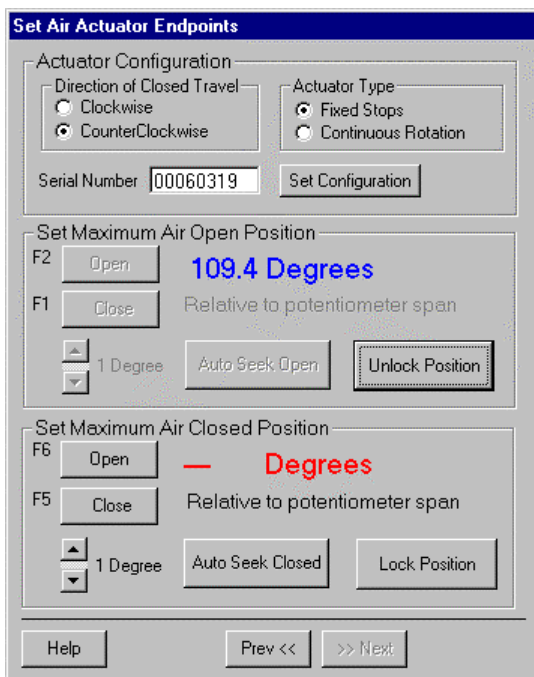

Fig. 11. Set Maximum Air Open Position.
3. Set Maximum Closed Position/Set Maximum Open Position (Fig. 11 and 12):